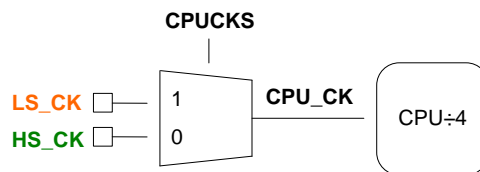

Figure 3-2 CPU and Peripheral Operation Clock
- When CPU_CK frequency and instruction execute cycle, it is as in Figure 3-2. Table 3-2 lists the relation between CPU operation frequency and instruction cycle briefly.